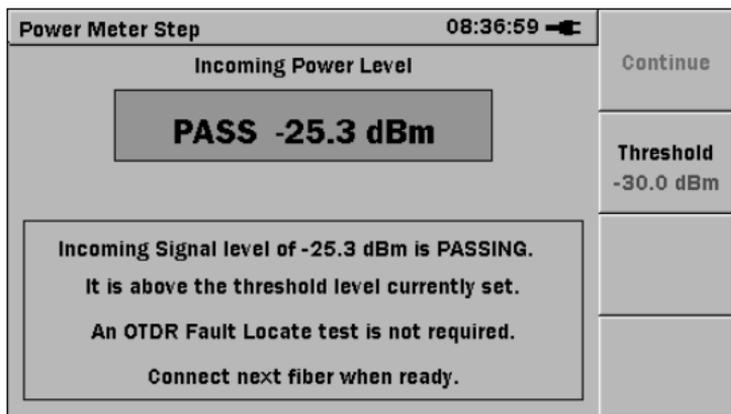
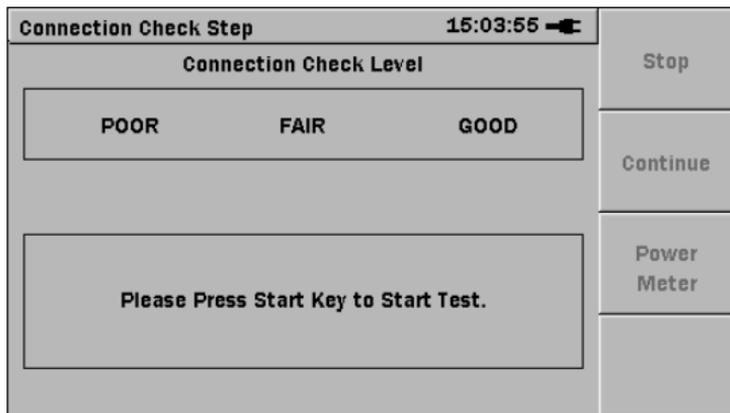
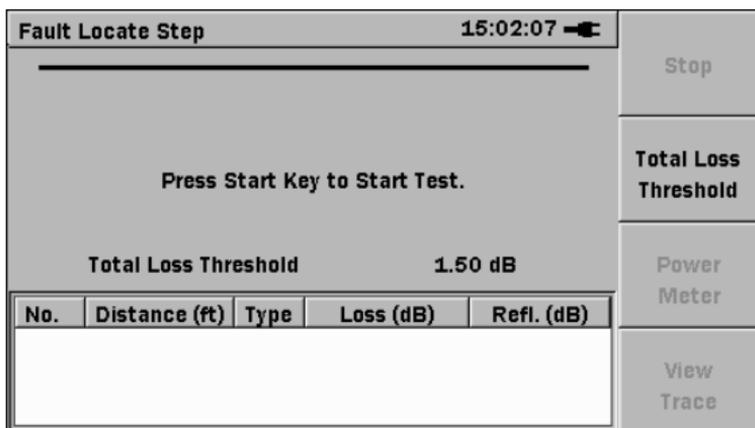

Figure 3-1: Power Meter Step Screen
Figure 3-2: Initial Connection Check Step Screen
Figure 3-3: Initial Fault Locate Step Screen
- When the optional Power Meter is enabled, the Power Meter Step screen (see Figure 3-1) appears at the conclusion of the self-test.
- When the Connection Check Step is enabled and the Power Meter Step is disabled (or the unit is not equipped with a Power Meter), the Initial Connection Check Step Screen, shown in Figure 3-2 on page 3-3 appears at the conclusion of the self-test.
- When the Connection Check Step and the Power Meter Step are disabled (or the unit is not equipped with the optional Power Meter) on the Preferences Setup screen, the initial Fault Locate Step screen, shown in Figure 3-3 appears at the conclusion of the self-test.
If a screen similar to the ones shown in Figure 3-1, Figure 3-2 or Figure 3-3 does not appear after powering up, the unit may have failed. Run the unit through a power cycle (power down / power up). If the problem persists, contact the Anritsu Technical Support Center or your local Anritsu representative (see “Anritsu Corporation Contact” on page xix).
The VFL selection is only available when one of the following screens is displayed: Power Meter Step (see Figure 3-1 on page 3-2), Connection Check Step (see Figure 3-2 on page 3-3), Initial Fault Locate Step (see Figure 3-3 on page 3-3), Fault Locate Summary (see Figure 4-15 on page 4-18) or Trace View (see Figure 4-20 on page 4-26).